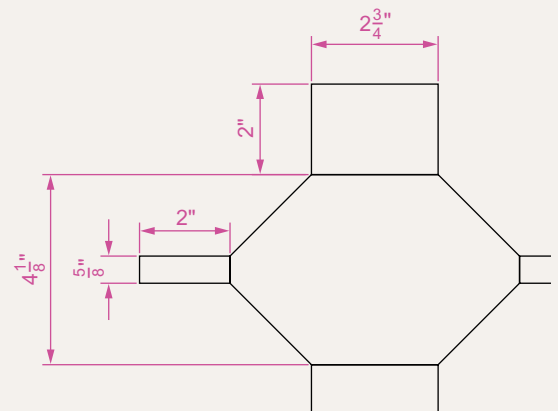

Fig. 3.51 Exercise 8
8. Fig. 3.51 was constructed using only the **Rectangle** tool. Make an exact copy of the drawing using only the **Rectangle** tool.